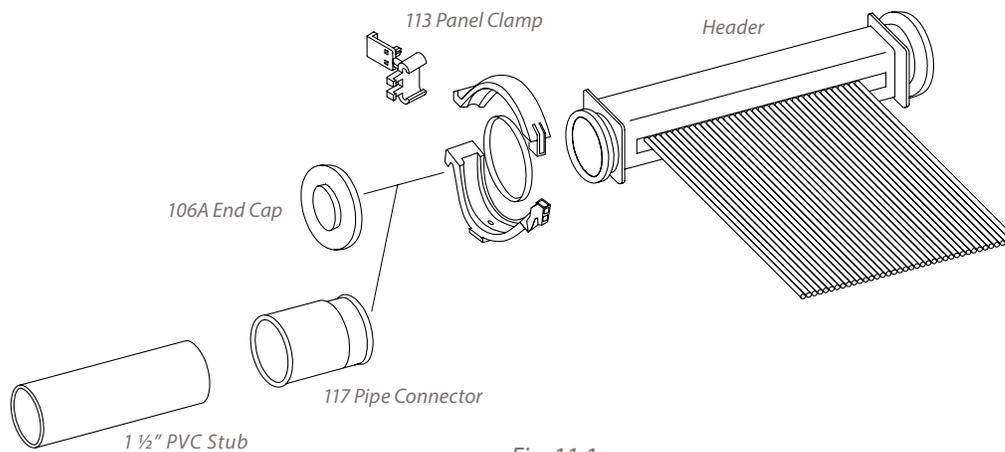

Fig. 11.1
2. Attach the (117) pipe connector to the corners of the array where the feed and return lines will be using the (113) panel clamp as described in the section on connecting solar collectors together on page 12.
3. Cement the PVC pipe to the (117) pipe connector as shown in Fig. 11.1.
4. The (117) Pipe Connector allows (1) 1/2" PVC Pipe or a (1) 1/2" St. 90 to be glued directly into the socket, or a 2" PVC 90 to be glued on the outside. CPVC or **multi-purpose glue** should be used when attaching PVC fittings or pipe to the pipe connectors to provide for a durable connection. A 90 degree PVC fitting and vertical pipe run of at least 5' should always be attached to the return line pipe connector to allow for lateral expansion and contraction of the return line pipe run.
6. Attach the (106A) end caps on the corners opposite the feed and return lines using the (113) panel clamps.